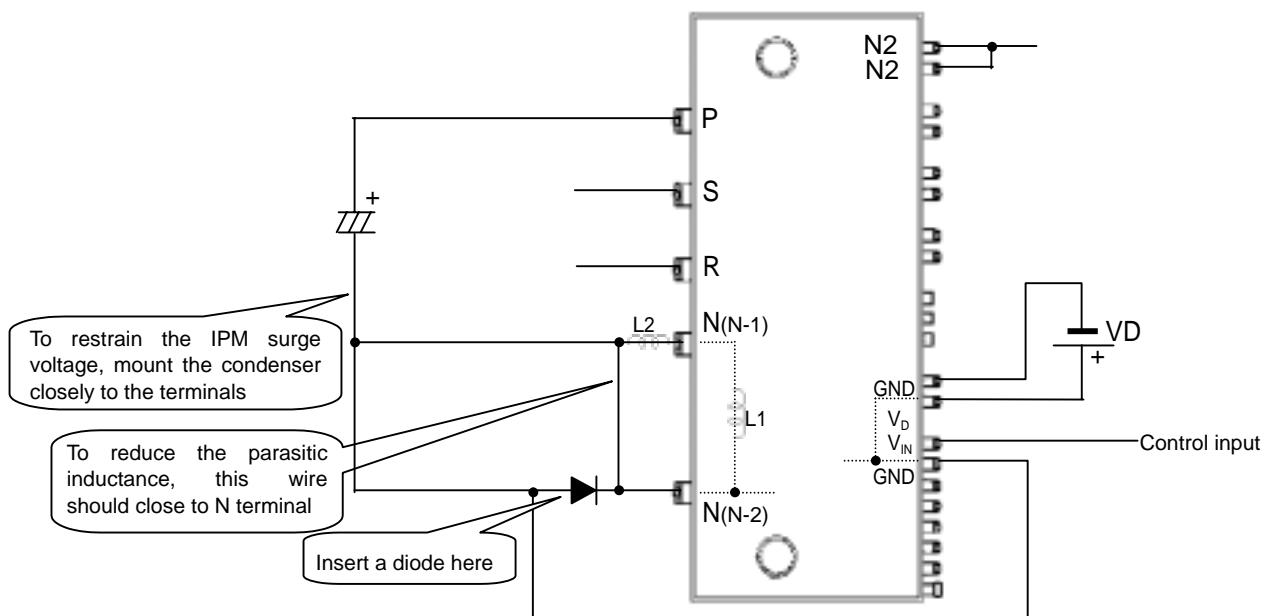

Fig. 13 Recommended wiring method
- The two IGBT emitters are connected to the VNO terminal of LVIC inside the DIP-PFC. If the internal wiring inductance shown as L_1 and L_2 in Fig. 13 is too large, large surge voltage will be generated by di/dt . Especially, the lower the temperature, the faster the switching speed, therefore the larger the di/dt . This surge voltage applies to the VNO and N terminals, which is possible to destruct LVIC.
- In order to suppress the surge voltage, the external wiring method shown in Fig. 13 is recommended. To reduce the parasitic wiring inductance, the wiring of the external terminals of $N(N-1)$ and $N(N-2)$ should be made as short as possible.